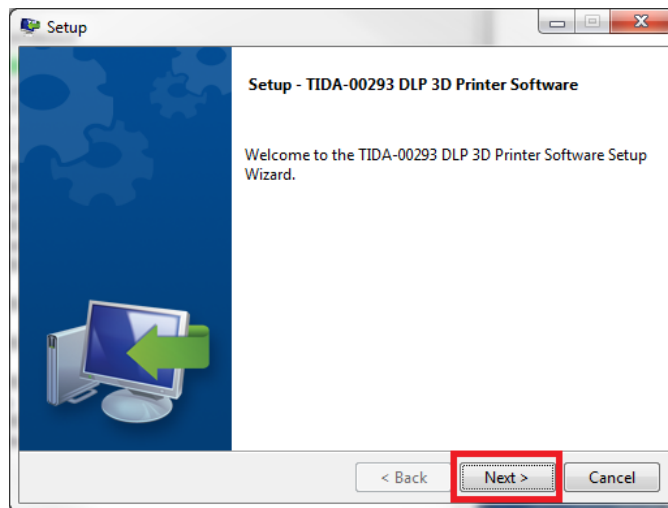

Figure 2-12. DLP 3D Printer Reference Design Setup Wizard Screen
3. Click the **Next** button on the install wizard setup screen, as shown in Figure 2-12.